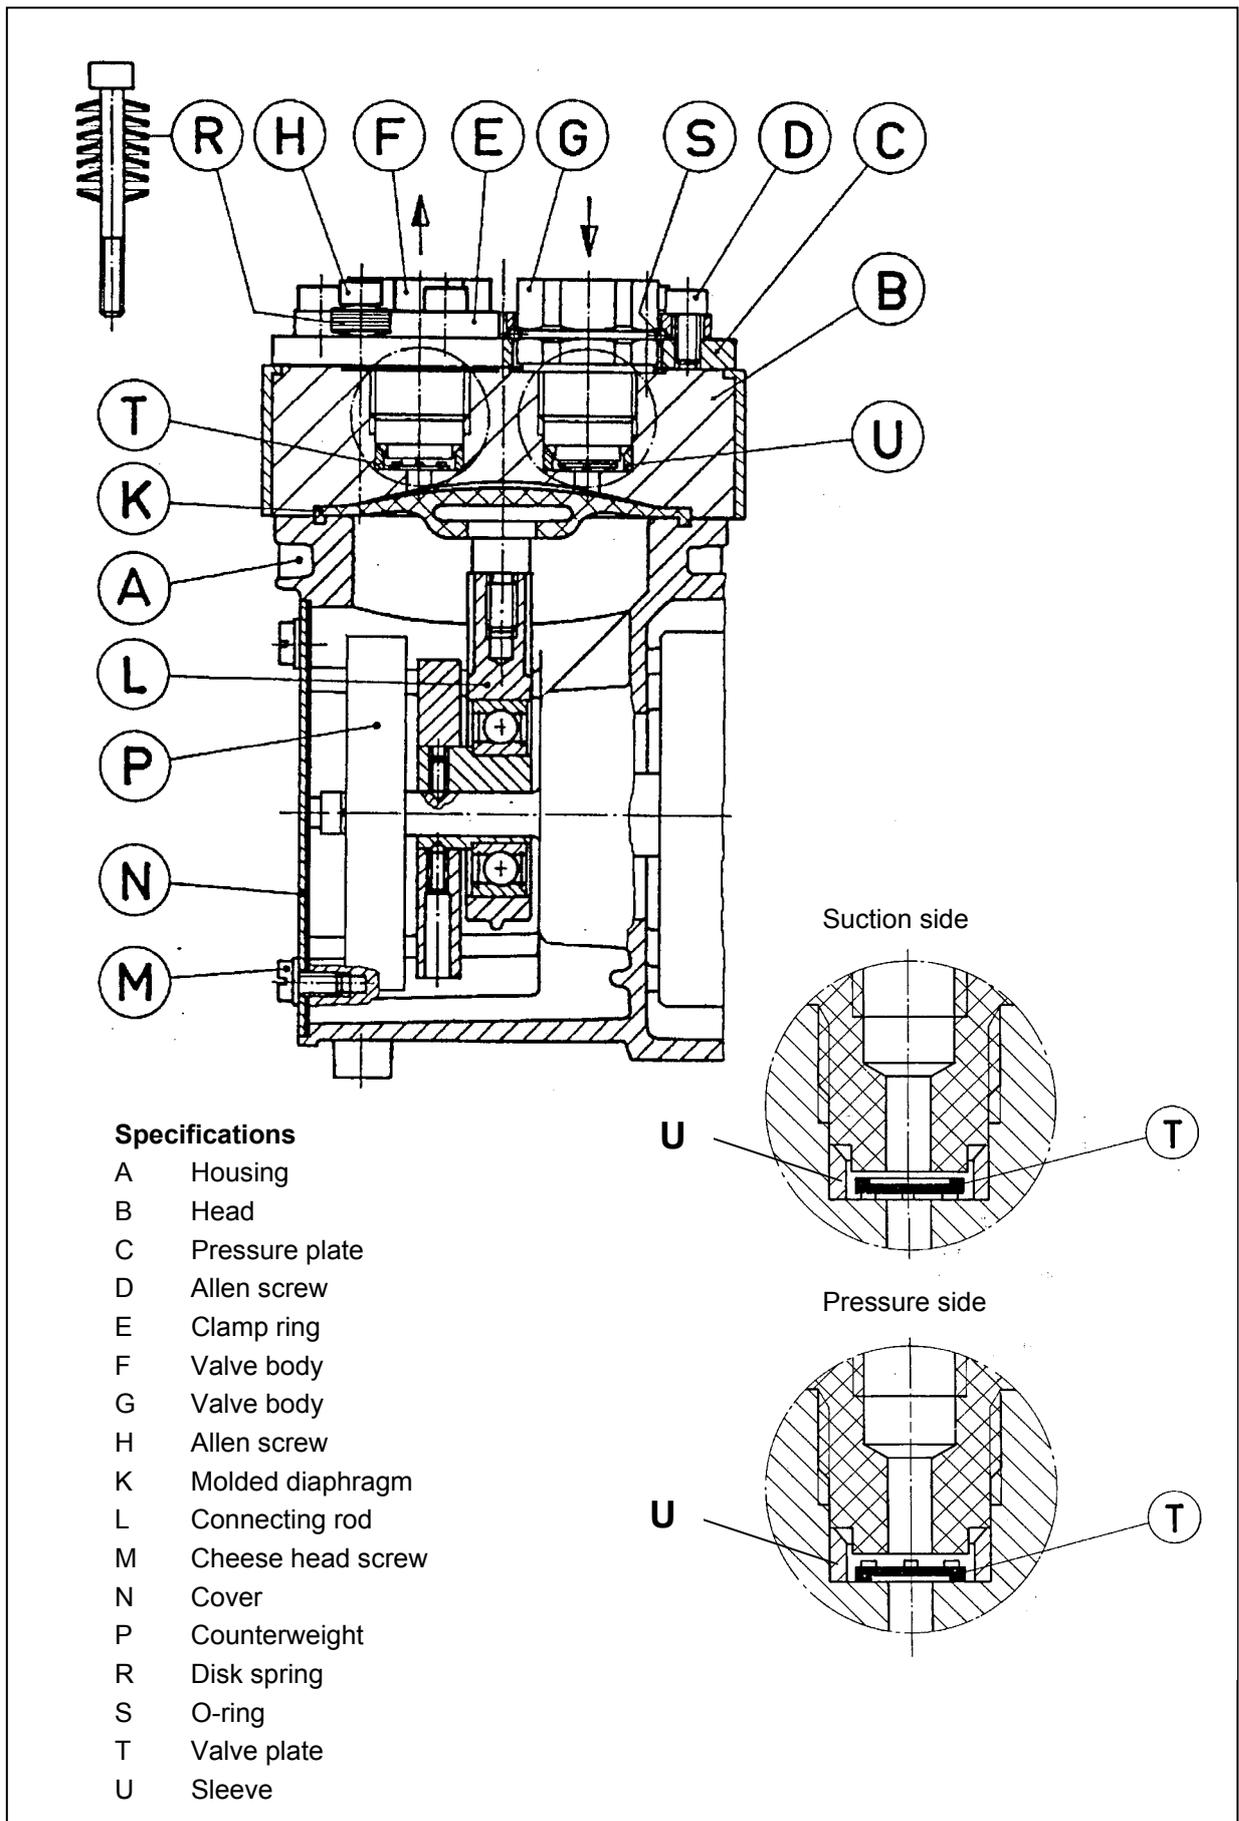

Fig. 4: Pump parts
** According to Fig. 4.
i The position letters in the following text refer to fig. 4.
2. Take sleeve U out of both holes of head B and put one new sleeve into each hole. For the position of sleeves see detailed view in Fig.4.
- i** Observe the correct position of the valve plates (see detailed view in Fig. 4):
*according to Fig. 4